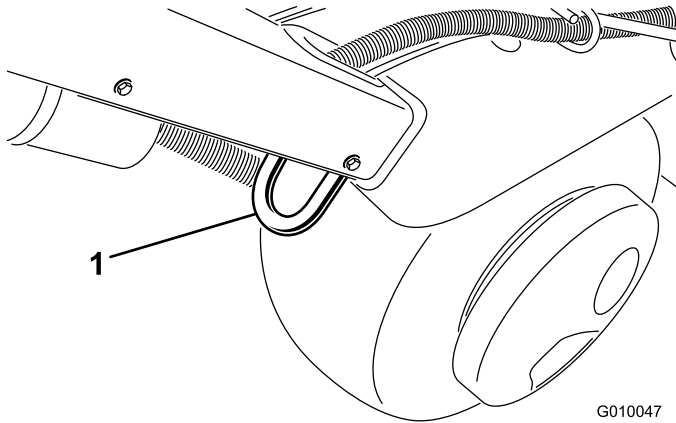

Figure 32
3. Securely fasten the aerator tie downs (Figure 32 through Figure 34) to the trailer or truck with straps, chains, cable, or ropes.